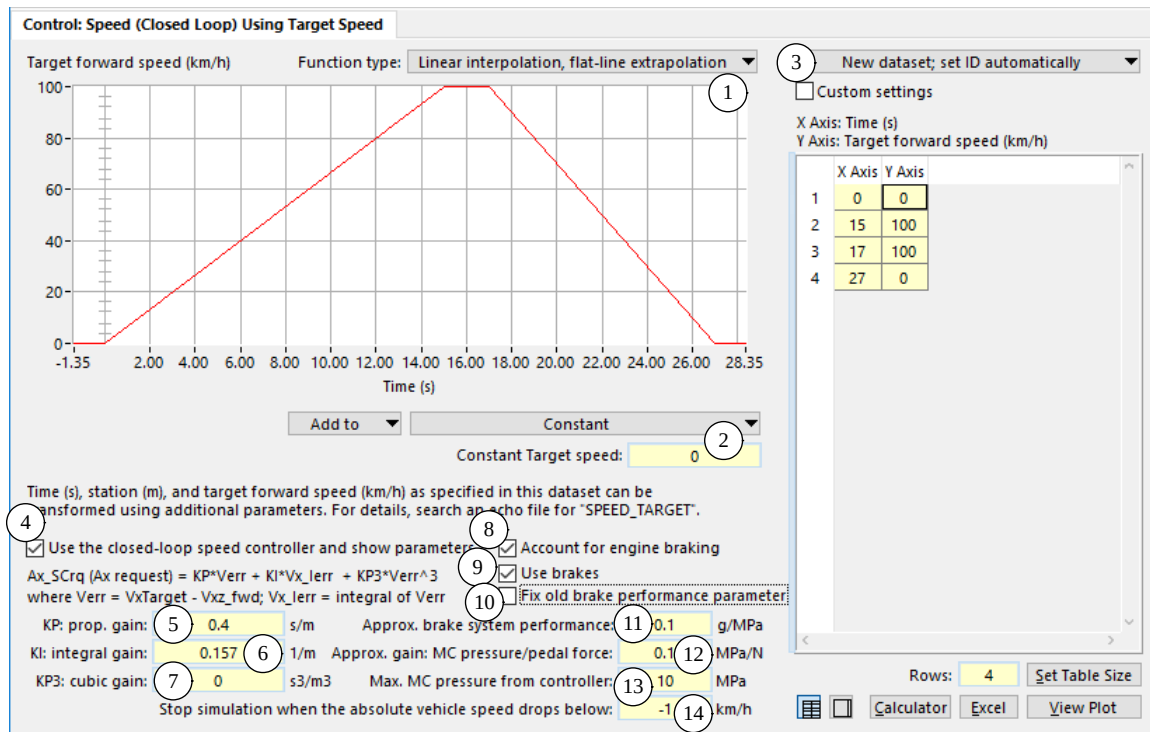
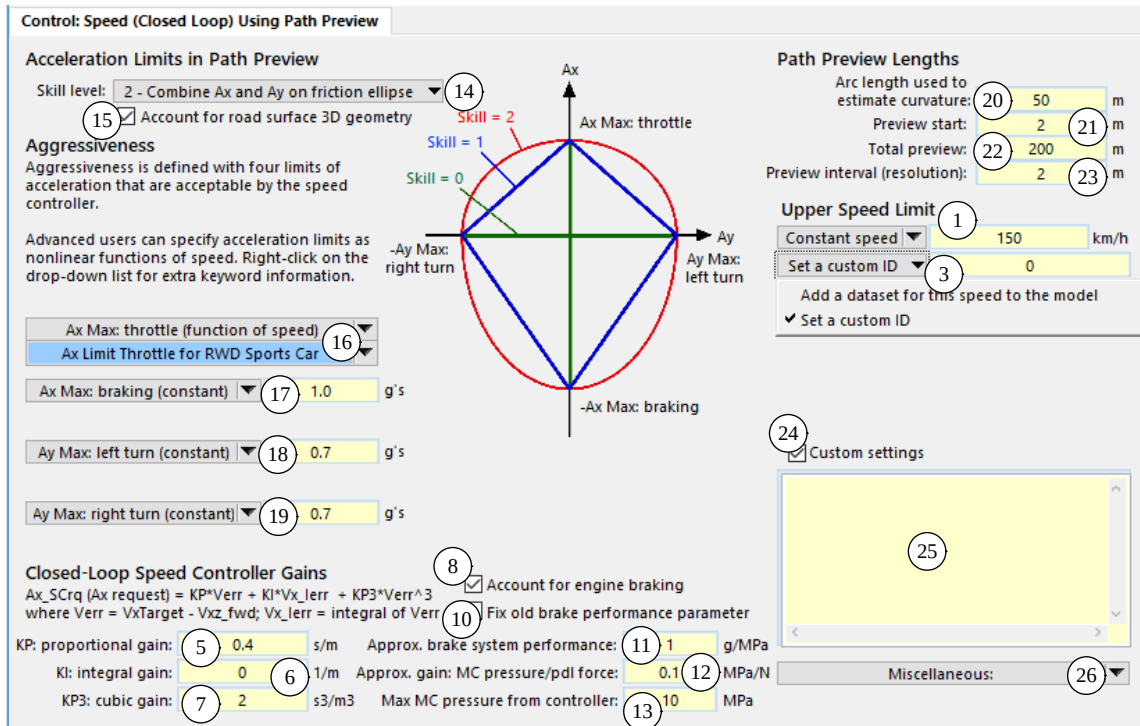

Figure 37. Speed target and closed-loop speed controller parameters.
Figure 38. Speed Control Using Path Preview.
Figure 37 shows the screen used to specify a target speed as a function of time and/or station. The top part of the screen shows a dataset for the `SPEED_TARGET` Configurable Function. The bottom part shows properties of the closed-loop speed controller used for the vehicle.
The speed controller can limit target speed based on of curvature in the reference target path, combined with driver aggressiveness, skill parameters, and possibly 3D surface properties. This is done with the **Control: Speed (Closed Loop) Using Path Preview** screen (Figure 38).
The user controls on the bottom of this screen are the same as those shown on the other screen and described in the previous subsection (items (5) - (13)) in both Figure 37 and Figure 38).
Brake control is fundamental for the path preview mode and cannot be disabled; hence, the checkbox for disabling the brakes ((9) in Figure 37) does not exist on this screen.
The option to stop the run when a minimal speed is reached is also not included when operating with the path preview option; therefore, the minimal speed field is not included ((14) in Figure 37).
- (1) The maximum target speed for SC is determined using the `SPEED_TARGET` Configurable Function. A dataset can be created here using a constant, or a link can be made to a dataset from the library screen described in the preceding section. Use the drop-down control to choose between these options.
If a constant is chosen, a yellow field is used to specify the value as shown in Figure 38. An ID is also needed to identify which `SPEED_TARGET` dataset will be used. Two options are available using the drop-down control (3).
If a function is chosen, a link is available to select a dataset from the library **Speed (Closed Loop) Using Target Speed** (Figure 37, page 47). The intent is that the linked dataset will define an upper limit target as a function of station. Internally, the speed controller uses the current path station  $S$  and  $T=0$  when using the `SPEED_TARGET` Configurable Function. The closed-loop controller gains ((5) - (13)) are read from the linked `SPEED_TARGET` dataset but will be overridden with the values read from this screen.